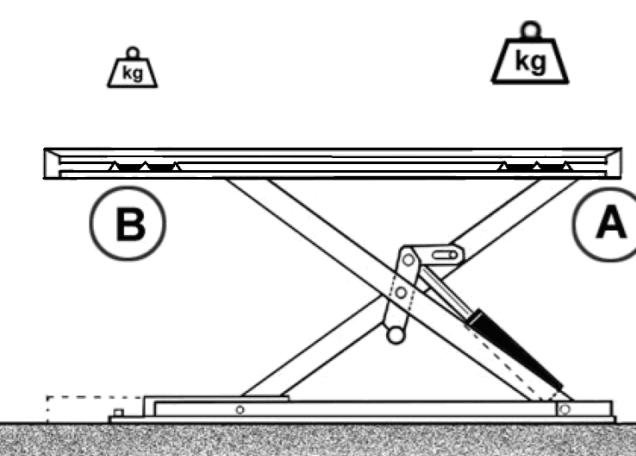

Figure 8 - Diagram of vehicle positioning conditions
- Position the vehicle in order that the heavy axle is on the -A- side of the lift (see figure 8).